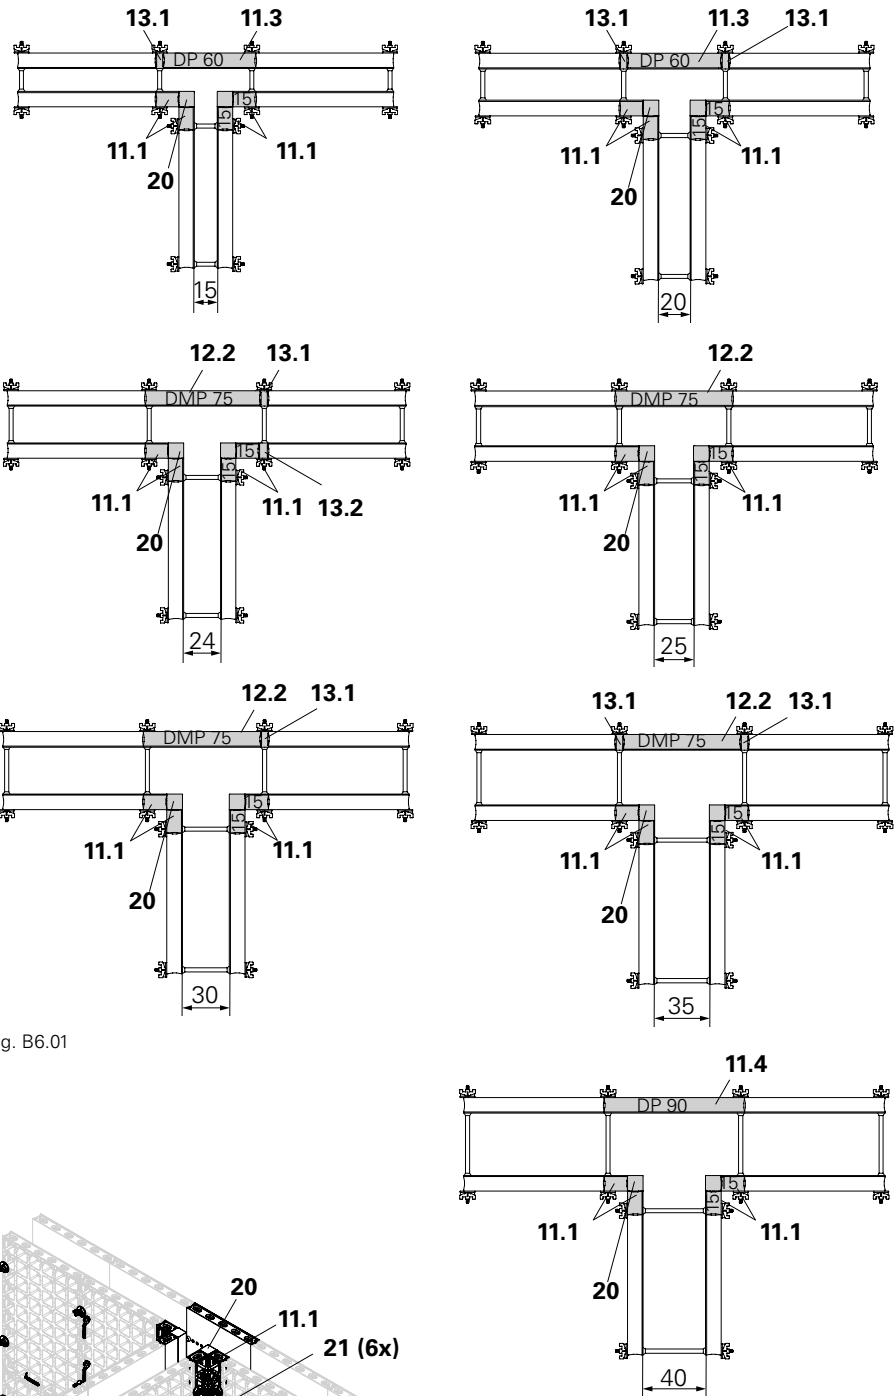

Fig. B6.01
For increments of 5 cm, see Fig. B6.01. DP 135 panels (10), reference height: 2.70 m.